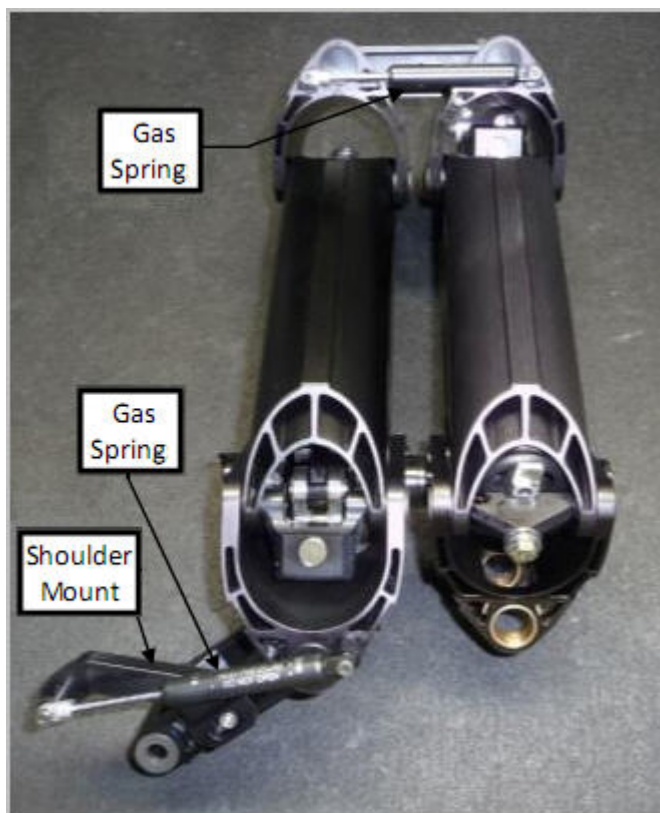

Figure 11 Folded arm, upside down, in right-hand orientation. Do not WORK on a folded arm.
3. Orient the positions of the parts for installing the shoulder gas spring. Use Figure 11, where the arm is shown upside down with the elbow pointed away from you, as a guide.